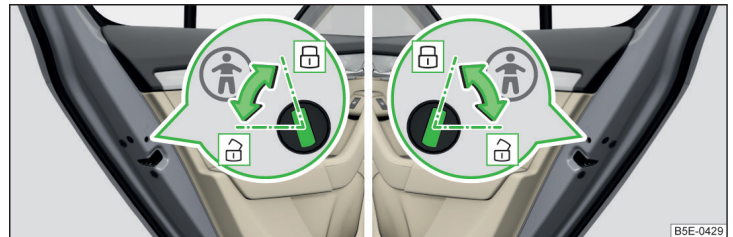

Fig. 54 Rear door: Child safety system switch on / off
- ▶ To **switch on**, turn the parental control with the vehicle key in position » Fig. 54.